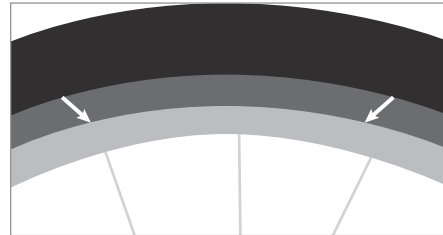

Figure 5
- Put on safety glasses and inflate the tire. During inflation, ensure the tire beads don't move off the rim. The tire beads may make an audible snapping noise when they are fully seated. Check for proper tire bead seating by examining the rim and the indicator line or the top edge of the tire bead (Fig. 5). The tire is properly seated when the distance between the rim and the indicator line is equal all the way around the tire on both sides.